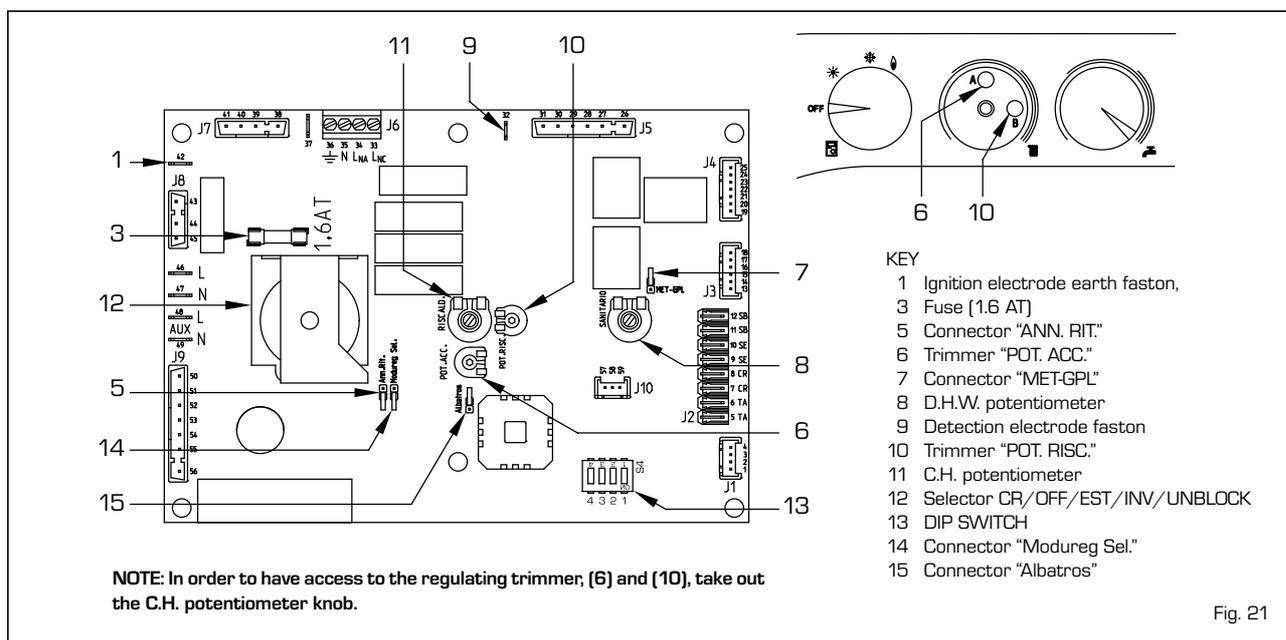

Fig. 21
- **Trimmer "POT. RISC."** (10 fig. 21)
- **Trimmer "POT. ACC."** (6 fig. 21)
- **Connector "MET-GPL"** (7 fig. 21)
- **Connector "ANN. RIT."** (5 fig. 21)
- **DIP SWITCH** (13 fig. 21)
- **Connector "Modureg Sel."** (14 fig. 21)
- **Connector "Albatros"** (15 fig. 21)
NOTE: In case of replacement of the SIT gas valve to HONEYWELL or vice-versa, press on the "Modureg" connector of electronic panel (14 fig. 21). With the bridge disconnected the boiler is predisposed to function with the SIT gas valve, and with the bridge connected it is predisposed to function with the HONEYWELL gas valve.